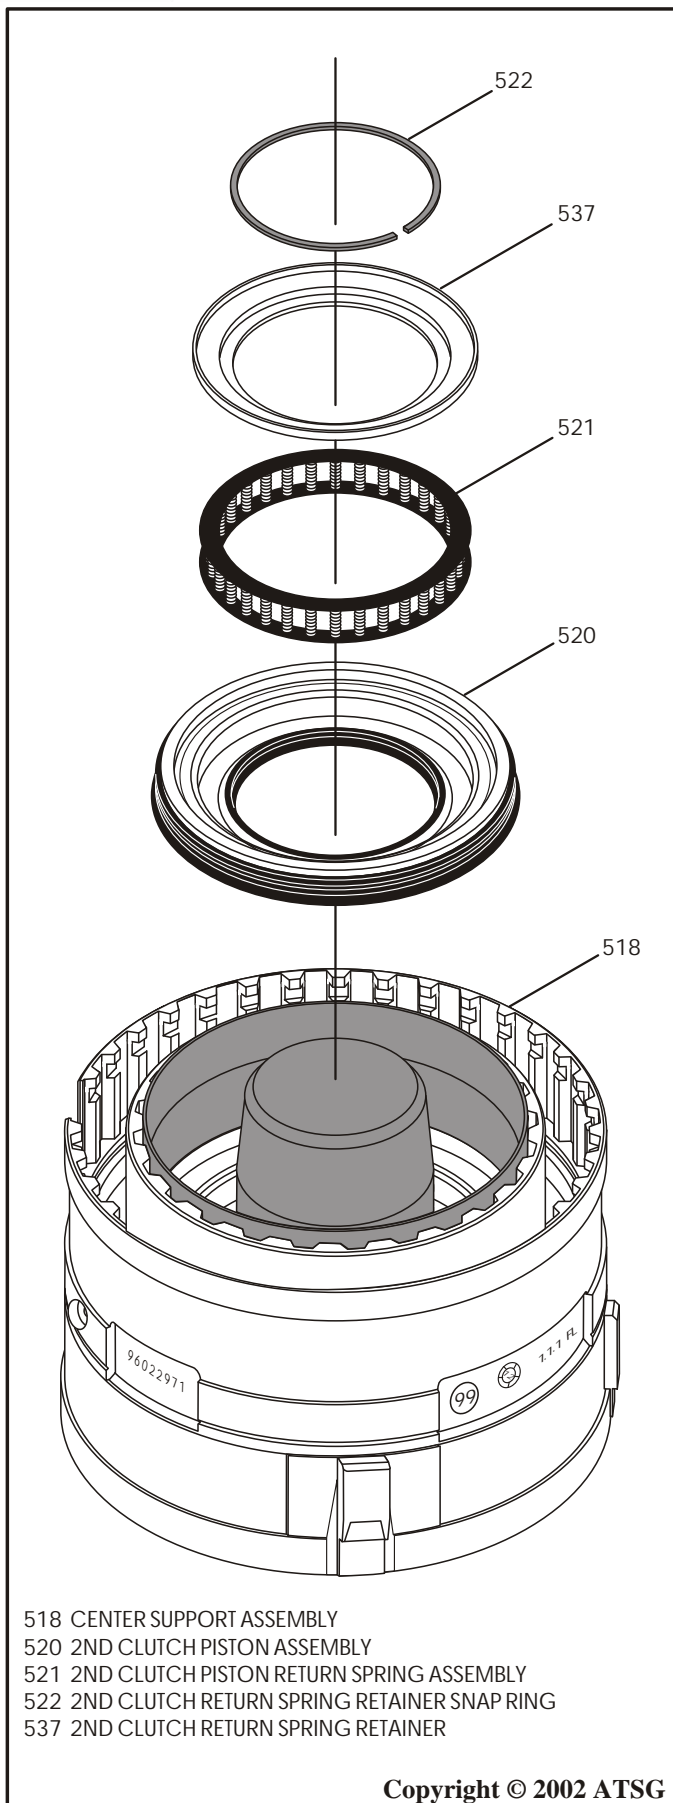

Figure 140
17. Lubricate the 2nd clutch piston seals with a small amount of Trans-Jel® and install the 2nd clutch piston into the center support, as shown in Figure 140.
19. Install the 2nd clutch return spring assembly, as shown in Figure 140.
20. Install the return spring retainer and snap ring on top of the return spring (See Figure 140).